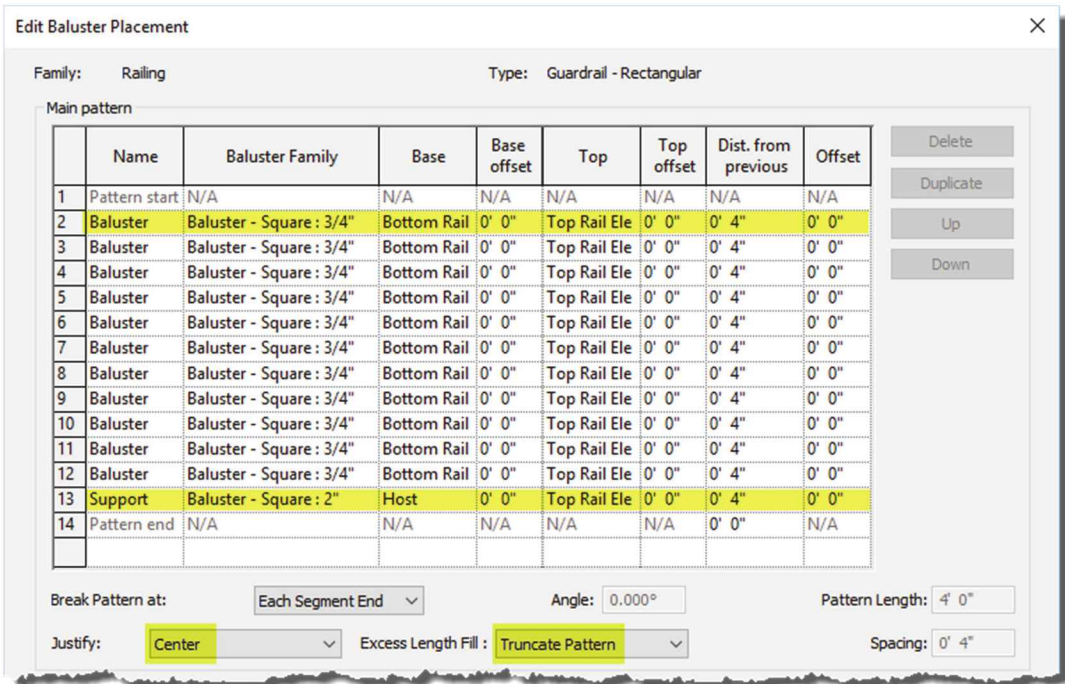

FIGURE 7-8.17 Edit Baluster Placement dialog; creating a 4’-0” pattern to include 2”
29. Duplicate the 3/4” baluster **10 times** as shown in Figure 7-8.17.
30. Duplicate the 3/4" baluster one more time and then change **Baluster Family** to **Baluster – Square: 2"** (Figure 7-8.17).
32. Set the **Excess Length Fill** to **Truncate Pattern** (Figure 7-8.17); this will repeat the pattern at the end when the total length is not perfectly divisible by 4'-0" (which will likely be most of the time).